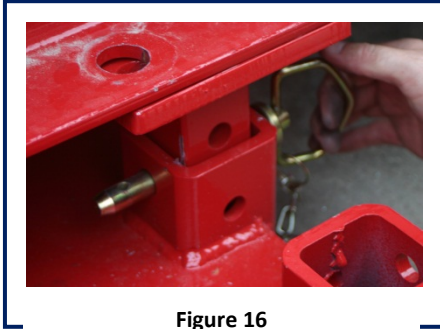

Figure 16
16. Remove Hinge pin allowing bracket base to slide down, dis-engaging from the scale beam flange. Replace Hinge pin in provided hole perpendicular to original location. See Figures 16 and 17.